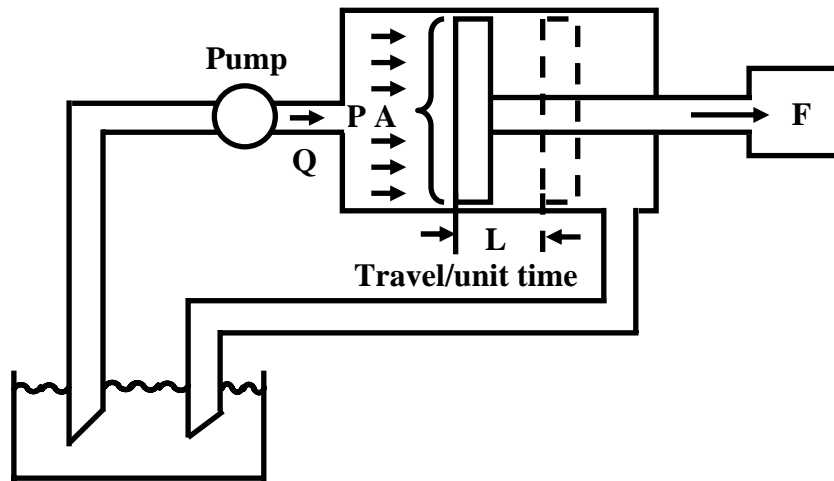

Fig. 26.1 Major hydraulic and mechanical variables
- Can you imagine what would happen, if the cylinder piston in Fig. 26.1 is stopped forcefully?